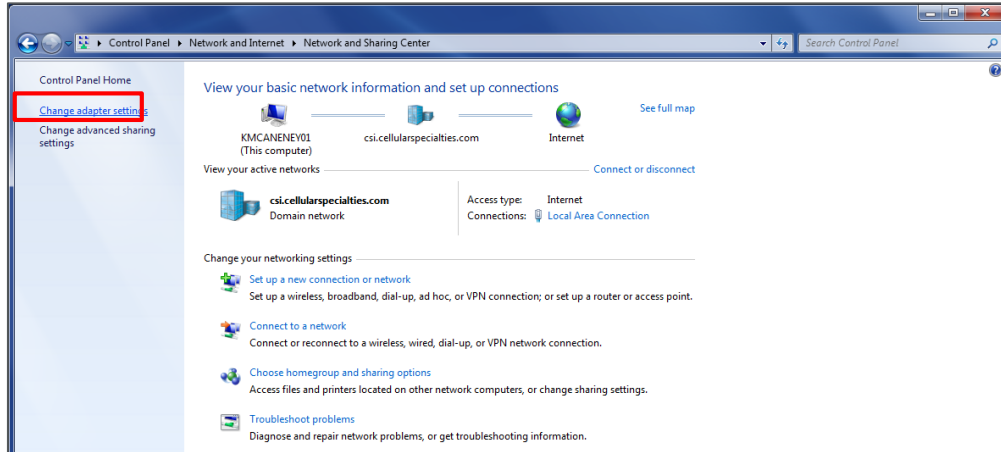

Figure 4-16: Change Adapter Settings
3. On the left hand side, click **Change adapter settings** as shown in Figure 4-16.